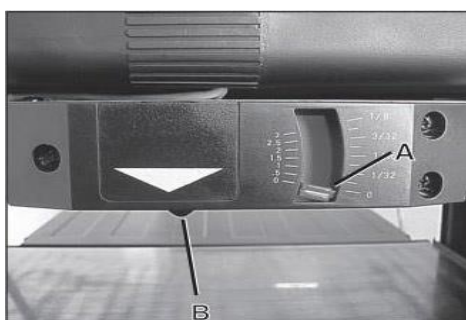

FIG. 9
1. With the machine OFF, insert your workpiece just under the cut scale (A). SEE FIG 9
2. Crank the raising / lowering handle until the button (B) comes in contact with the workpiece. As you rotate the raise / lower handle, the needle on the depth of cut scale will move showing how much material will be removed in that pass.